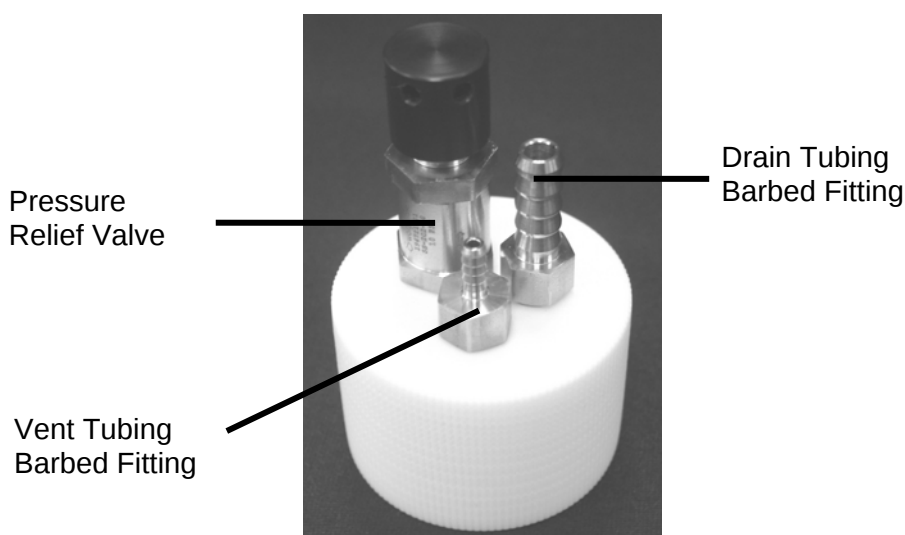

Figure E-10: Bottle Cap Connections
- d) Attach the other ends of the Drain/Vent tubing to the barbed fittings on the Cap of the Waste Bottle. The Vent tubing will be attached to the smaller barbed fitting and the Drain tubing will be attached to the larger barbed fitting (Figure E-10). Carefully place the tubing over the barb ensuring that the inner lining is over the barb. Grasp the tubing near the barb and push the tubing onto the barb until it is all the way down.